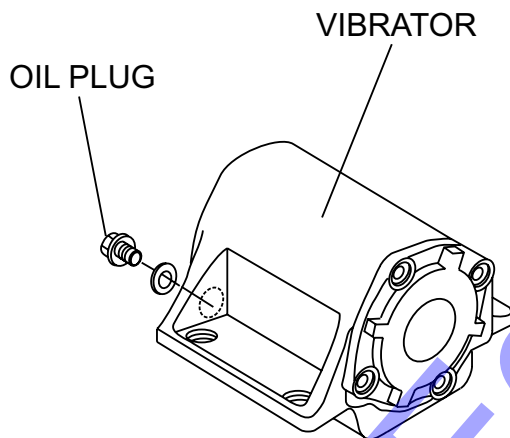

Figure 11. Vibrator Oil Plug
2. Check vibrator oil level by removing the oil plug (vibrator oil gauge) as shown in Figure 11. The oil level should be up to the oil plug. The vibrator holds 140 cc (approximately 0.3 pint). **IMPORTANT**, if oil is required, replace using only SAE10W-30 motor oil.